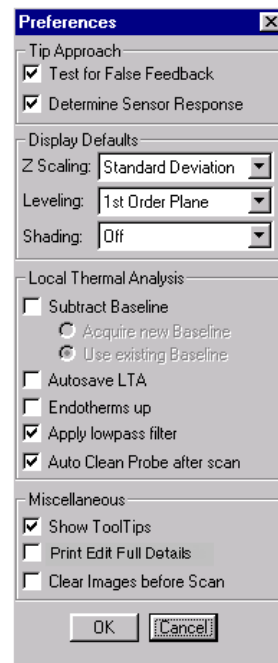

Figure 3.36
11. Select **Options/Preferences** from the menu to open the **Preferences** window, as seen in Figure 3.36 to the right.